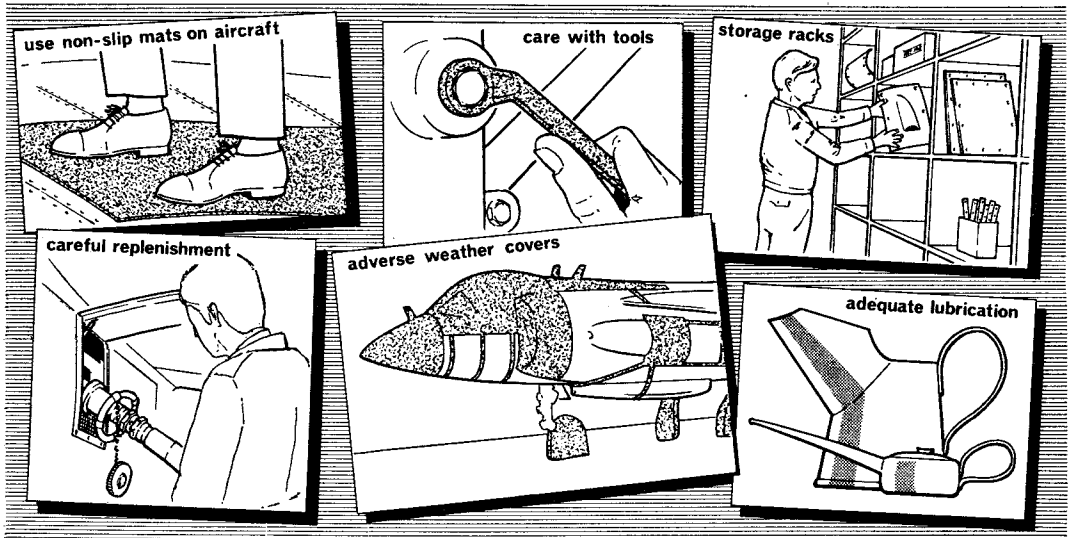

Fig. 1 Care of protective coatings
17. A protective coating—whether it is an electroplating, an oxide film, or merely a coat of paint—will, as long as it remains intact, adequately protect a metal against surface corrosion. Unfortunately, applying a protective coating is one thing; trying to maintain it in all sorts of working conditions is like trying to go through life without falling down and grazing a knee. Nevertheless, every possible precaution must be taken to preserve this protective barrier (Fig. 1).